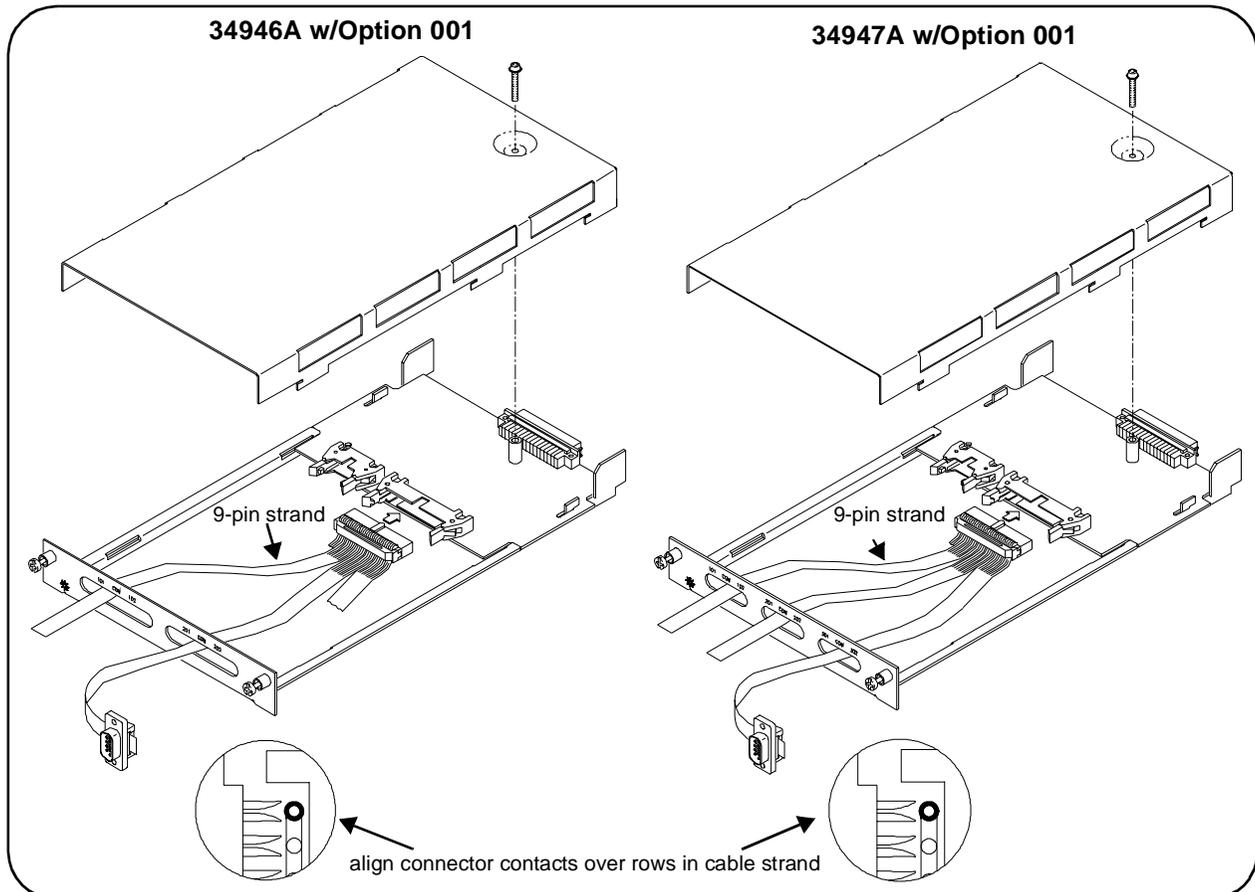

Figure 1. 34946A and 34947A Option 001 Installation.
1. Remove the 34946A or 34947A cover by removing the screw (T-10 torx) on the top of the instrument (Figure 1).
2. Insert the ribbon cable into the connector on the printed circuit board as shown (Figure 1).
3. **34946A** - Route the center and left 9-pin strands through the corresponding slots of the instrument face plate (Figure 1). Cut the cable strands to the desired length, or if necessary, the full length of the strands can be used.
3. **34947A** - Route the right, center, and left 9-pin strands through the corresponding slots of the face plate as shown (Figure 1).